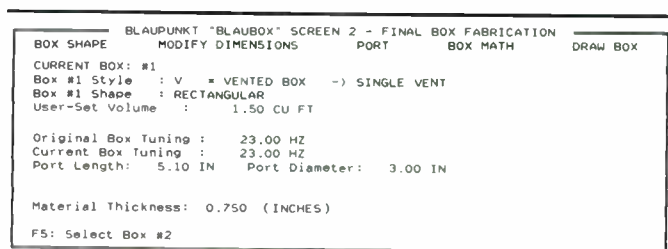

FIGURE 6: Screen #2 showing incorrect retained Port data; correct length should be 21.78\".
3. Displaying wrong duct length. After PORT design for a vented enclosure on Screen #2, the port diameter and length are displayed. If you return to Screen #1 and change something associated with the design, on return to Screen #2 you will see the new design presented, but the old port diameter and length are still displayed. Figure 6 shows the results of this. Always select PORT and reestablish a valid port design before assuming you have a final design.